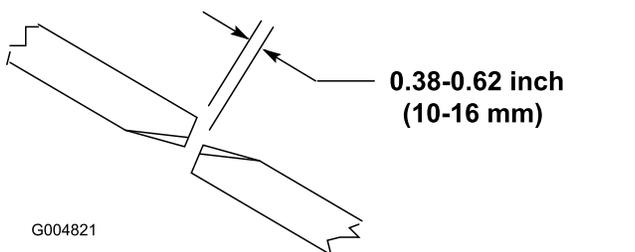

Figure 26
To ensure proper operation of the mower deck, there must be a 10 to 16 mm (0.38 to 0.62 inch) clearance between the tips of the side and center mower-deck blades (Figure 26).
2. Rotate a center and adjoining side blade so the blade tips are aligned. Measure the distance between the blade tips (Figure 26).